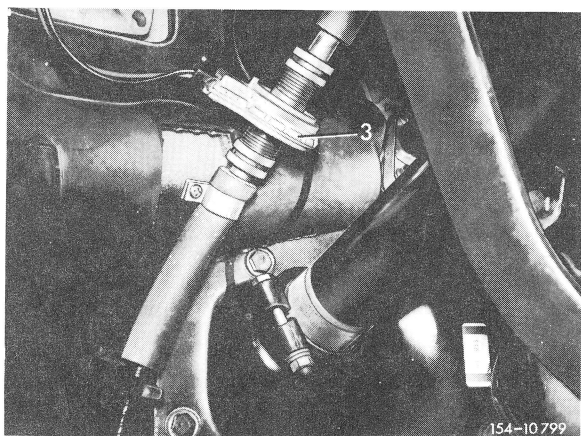

Fig. 1 Location of speed sensor in speedometer cable (1st version until April 1976).
1. Remove cover panel under the left side of the instrument panel or the combination instrument cluster (Figure 1 and 2).